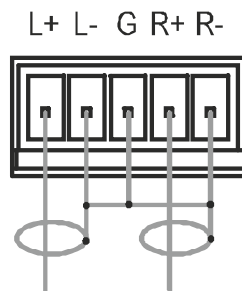

Figure 7: Unbalanced Stereo Audio Input Connection
- An unbalanced stereo audio input connection, see Figure 7